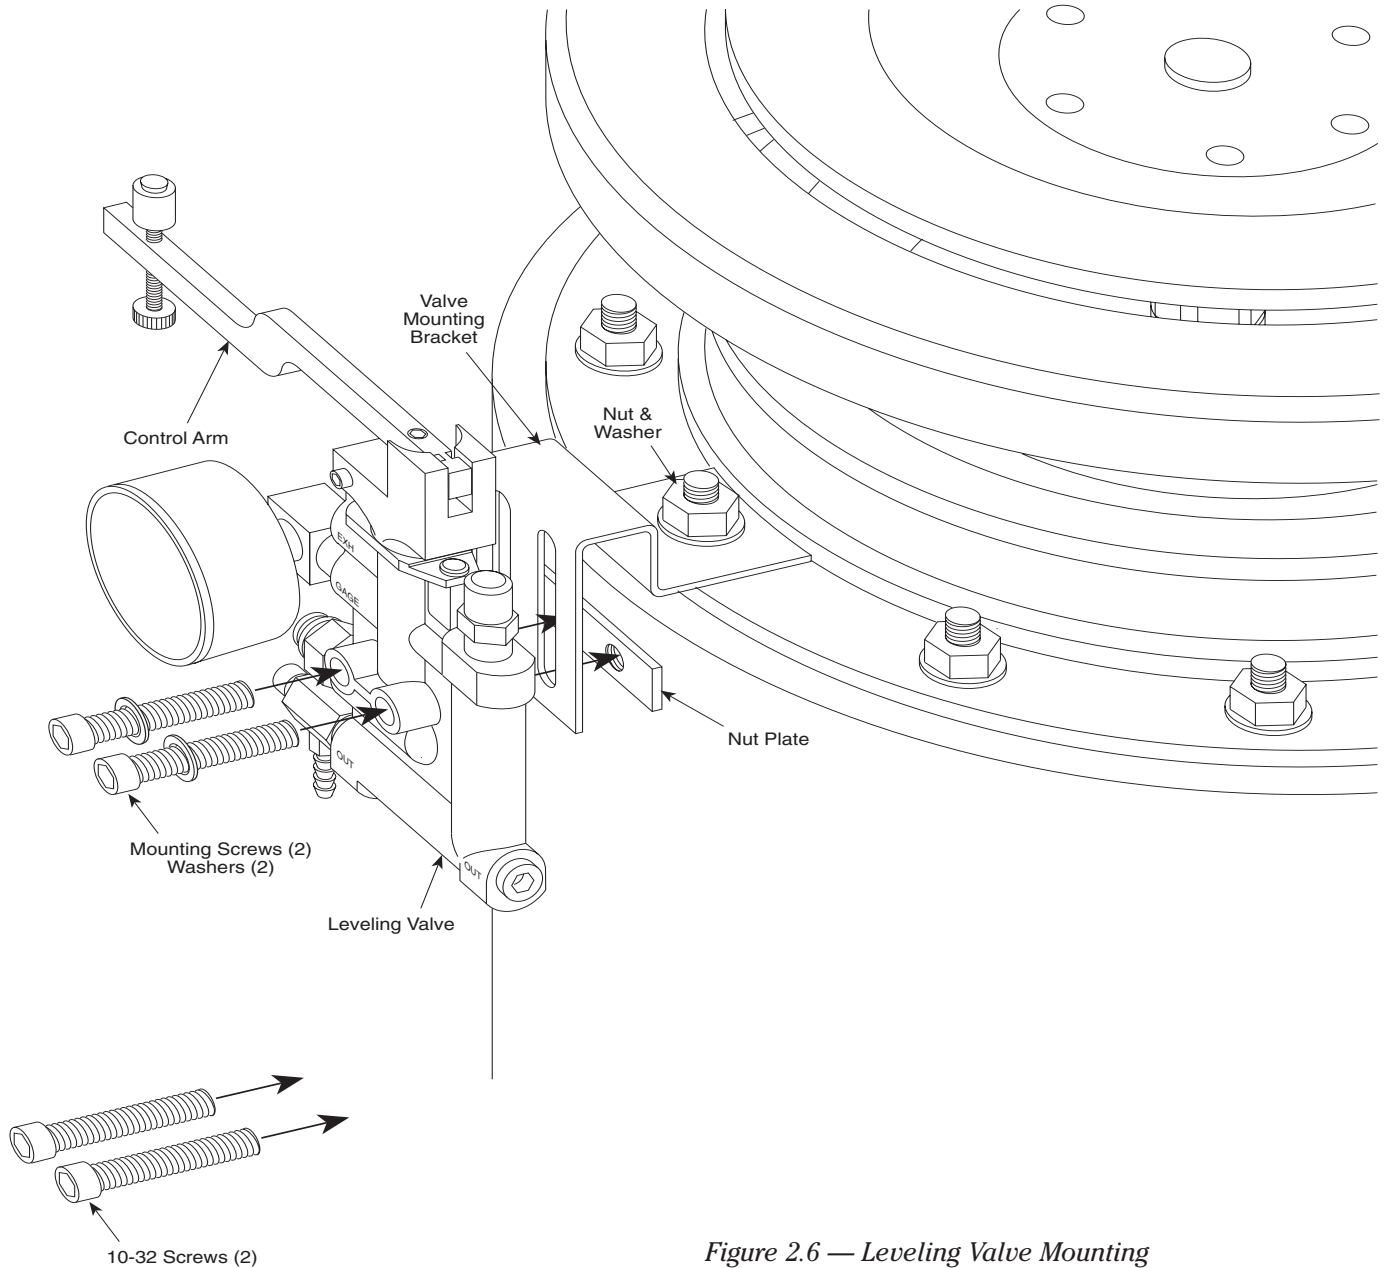

Figure 2.6 — Leveling Valve Mounting
The valves should be attached to the isolators as shown in Figure 2.6 after installing the table top.
- B. Attach the leveling valve to the isolators as shown in Figure 2.6. Secure the valve to the bracket using the two mounting screws and the nutplate. Position the valve at the bottom of the bracket slots until after the table is installed and leveled.